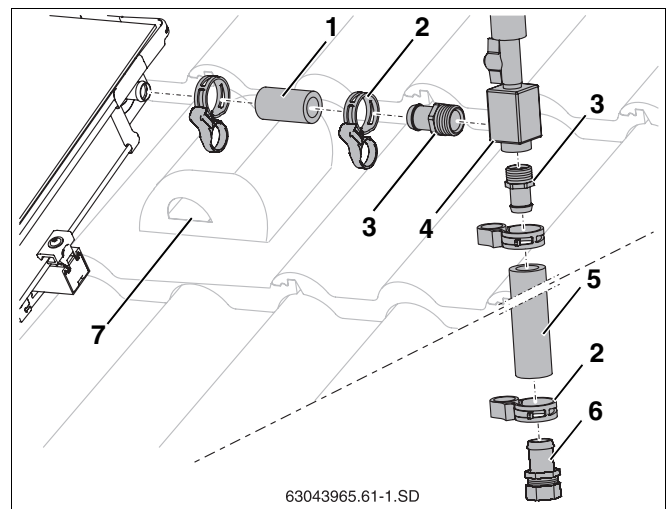

Fig. 57 Connecting the air vent valve on roof
- ▶ Push short solar hose (55 mm, Fig. 57, **Item 1**) onto the flow connection on the collector array and fix in place using hose clip.
- ▶ Firmly screw R $\frac{3}{4}$ hose nozzles with O-rings (Fig. 57, **Item 3**) into the air pot (Fig. 57, **Item 4**).
- ▶ Insert hose nozzles (Fig. 57, **Item 3**) into the solar hoses (Fig. 57, **Item 1** and **5**) as far as they will go, and fix in place using hose clips (Fig. 57, **Item 2**).
- ▶ Insert hose nozzle with compression fitting (Fig. 57, **Item 6**) into the solar hose as far as it will go, and fix in place with hose clip.
- ▶ Feed solar hose together with the sensor cable through the ventilation tile (Fig. 57, **Item 7**) and through the roof insulation.
- ▶ Connect header pipe to the hose nozzle with compression fitting (22 mm) (Fig. 57, **Item 6**).